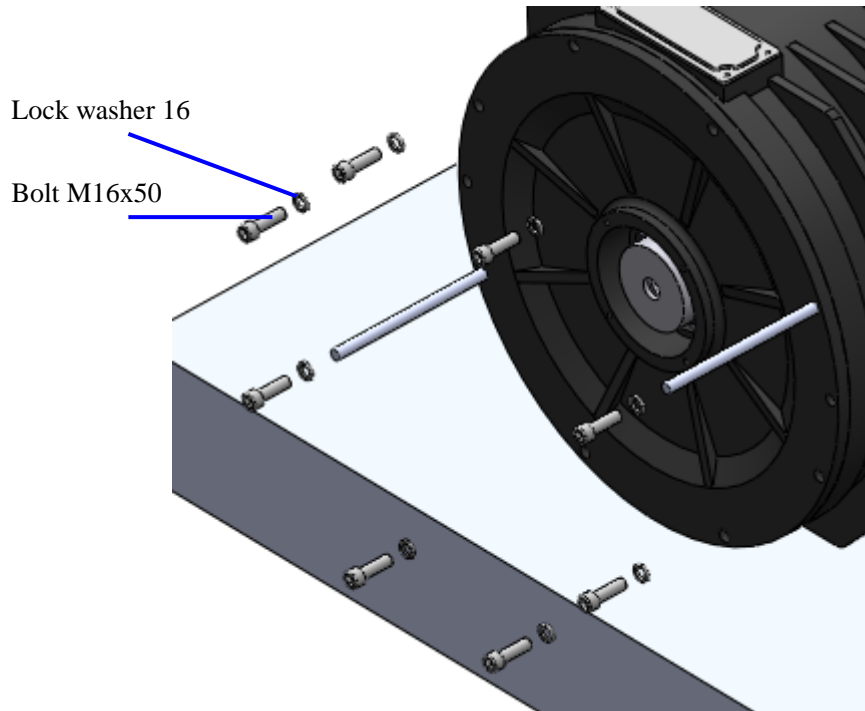

Figure 119: Secure back cover
- Secure the back cover and the machine body with the bolt M16x50 (8 pieces) and lock washer16 (8 pieces). Remove the double end studs M16x300 at the same time. See Figure 119.